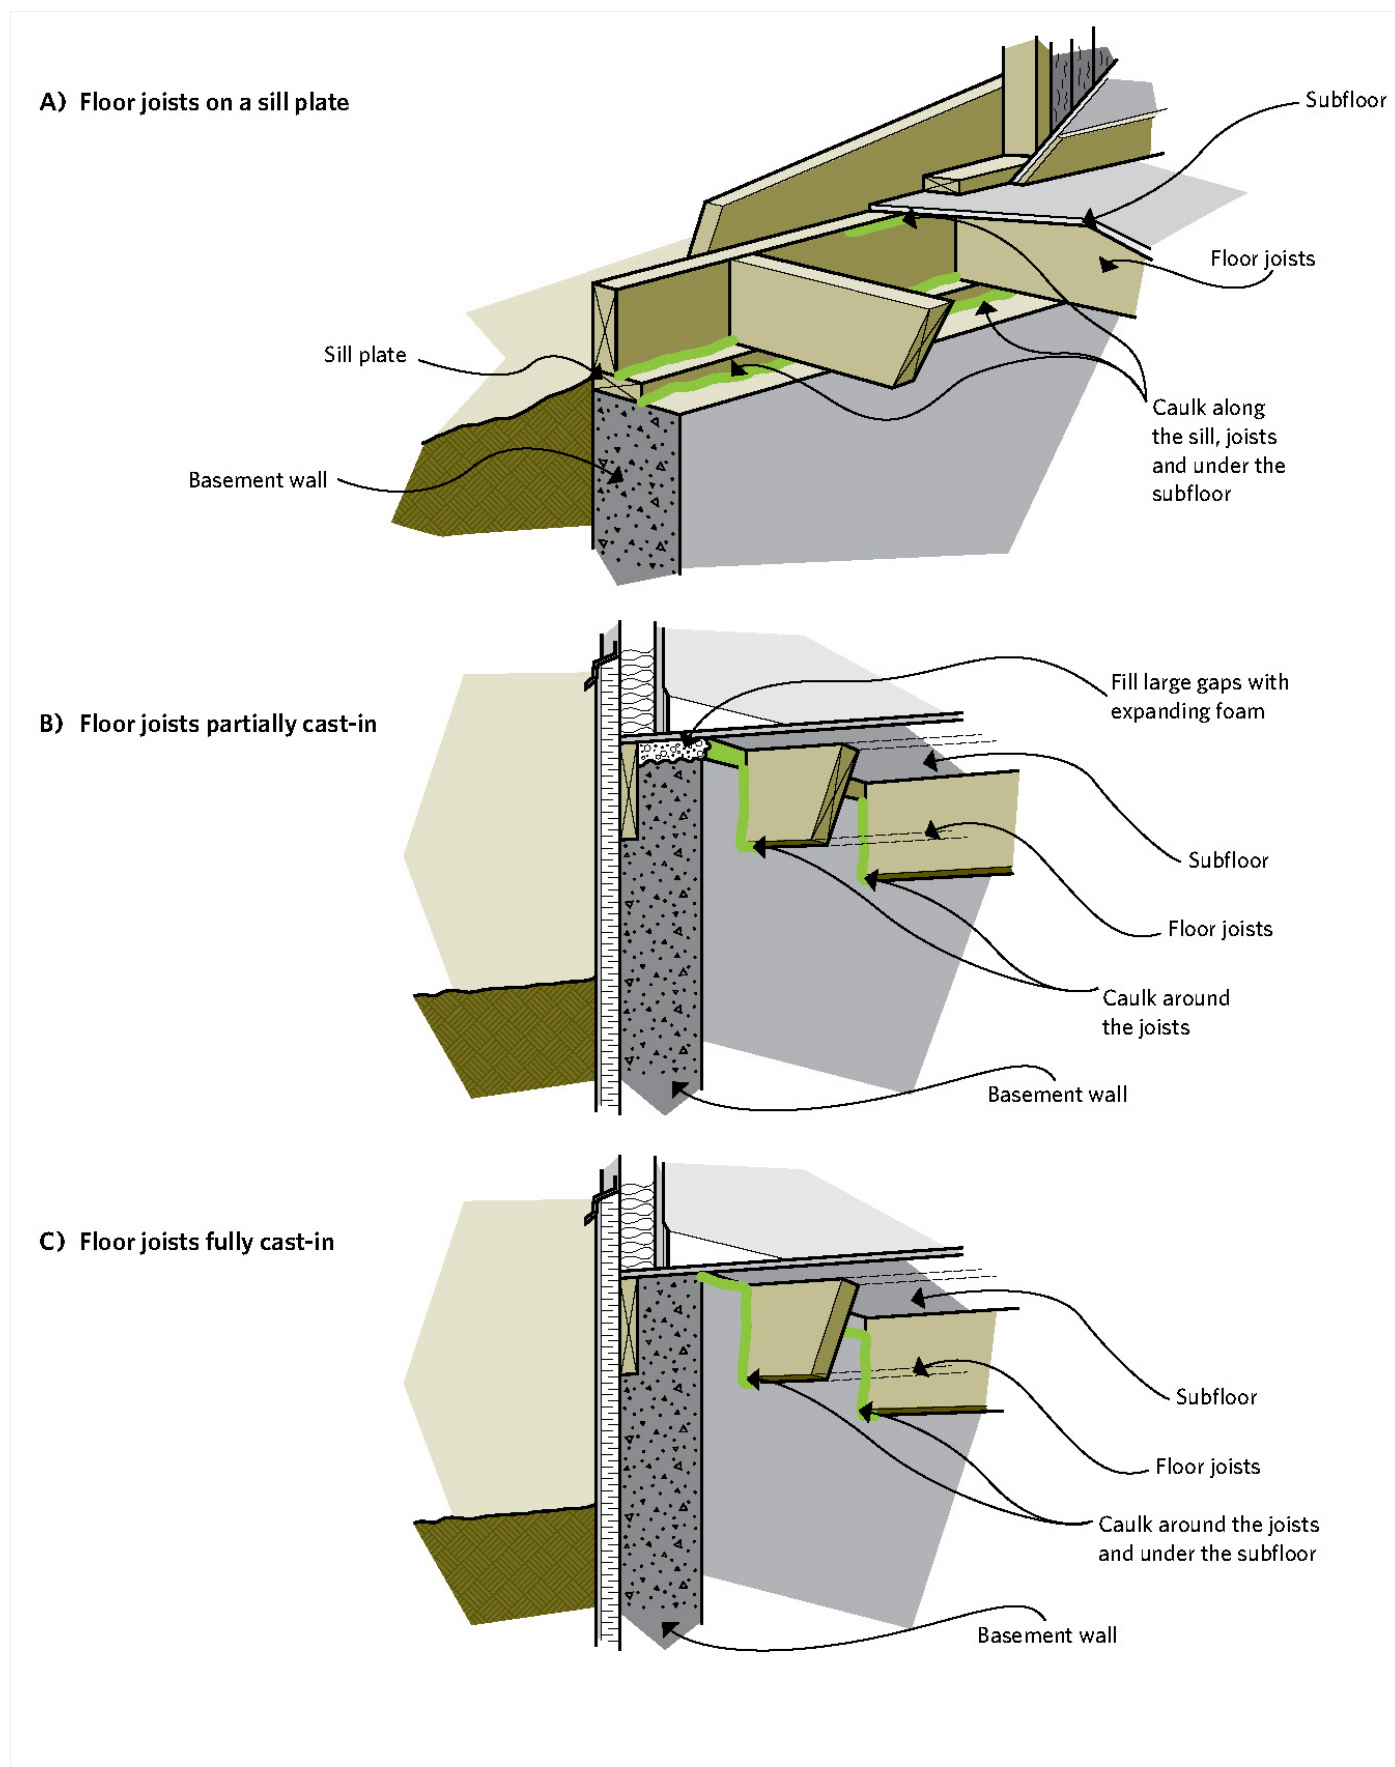
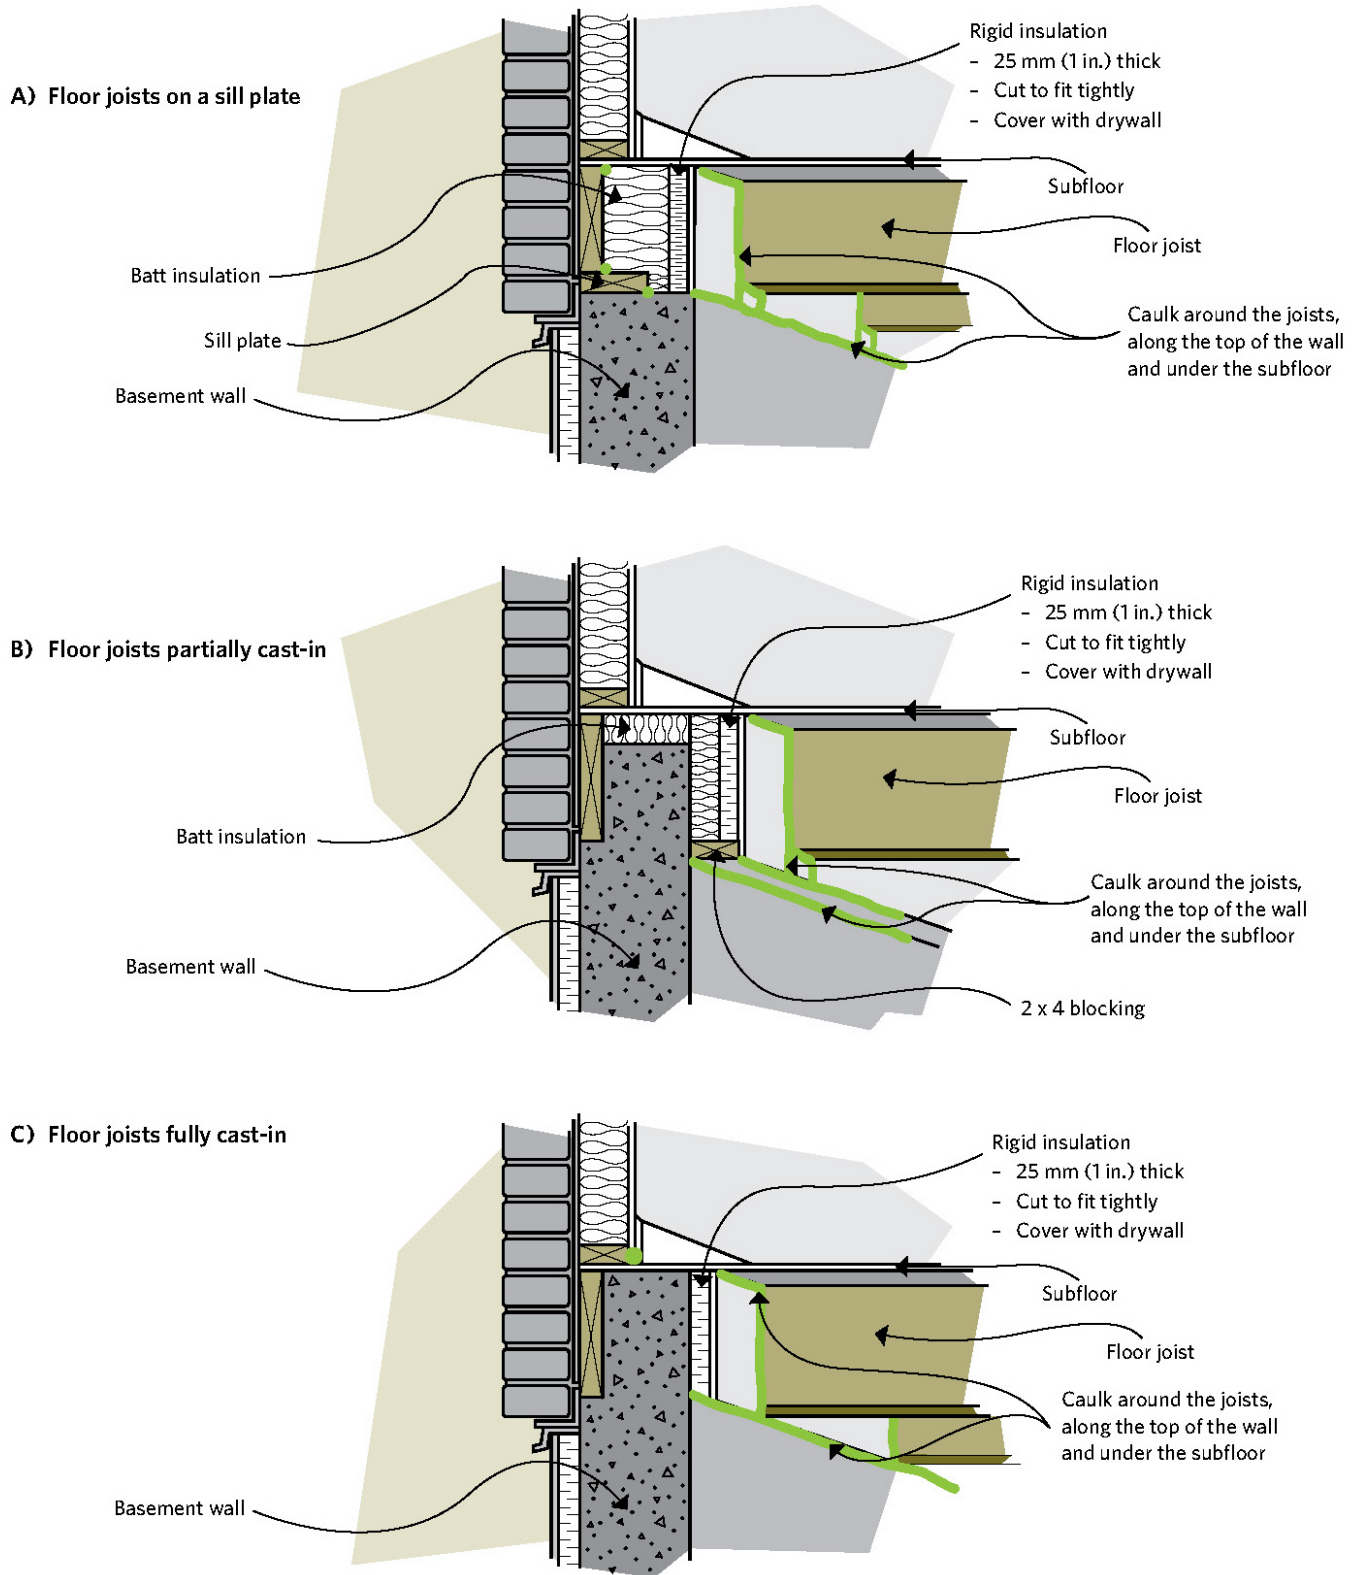

Figure 6-18 Reducing air leakage in the joist header area
Figure 6-19 Insulating the joist header area
- floor joists on a sill plate (Figure 6-18, Part A and Figure 6-19, Part A)
- floor joists partially embedded in the foundation (Figure 6-18, Part B and Figure 6-19, Part B)
- floor joists fully embedded in the foundation (Figure 6-18, Part C and Figure 6-19, Part C)
Figure 6-19 shows how to air seal and insulate three common types of joist header spaces.
For all the approaches illustrated in Figure 6-18 and Figure 6-19, building codes may mandate levels of insulation, so check with your local authorities as to the recommended levels and practices.